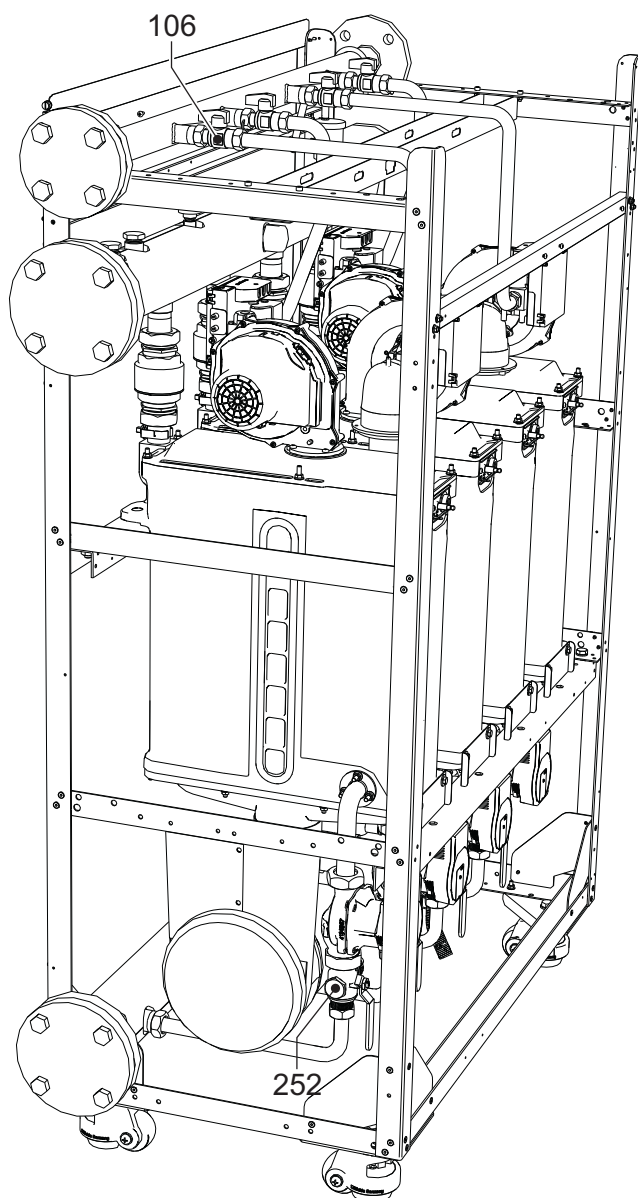

fig. 105
Disconnect the unit from the power supply and close the gas cock (ref. 106 - fig. 105) of the module undergoing maintenance. If necessary, drain the hydraulic circuit by connecting the hose connector pre-installed in the first module, using a suitable rubber hose (not supplied), to a drain or a collection manifold, on the side outlet of the three-way cock (ref. 252 - fig. 105) located on the module return. Close the three-way cock (ref. 252) on the return in order to drain.